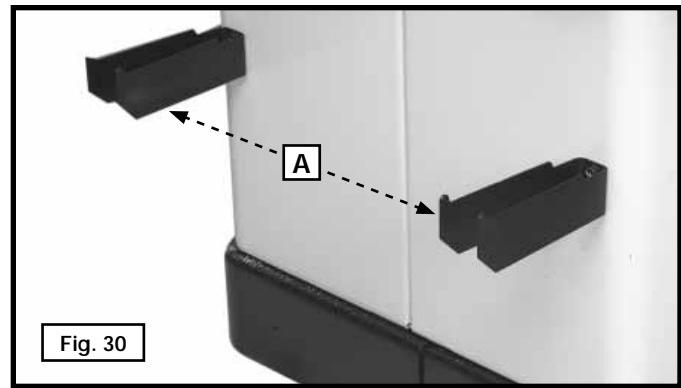

Fig. 30
Attach the rip fence holder brackets (A) Fig. 30 to the four holes located in the right hand side of the saw cabinet. Use the supplied four #10 x 1/2" sheet metal screws.